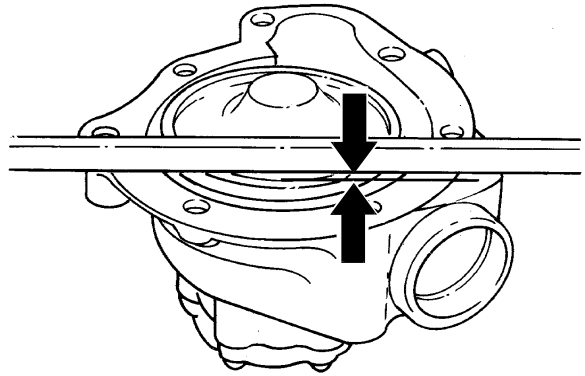

Figure 96 - Coolant Pump Impeller - Installed Position
- i. Press the coolant pump impeller onto the shaft until the face of the impeller is flush with the face of the coolant pump housing (refer to Figure 79 dimension **b** (± 0.1 mm)) (Fig 96).